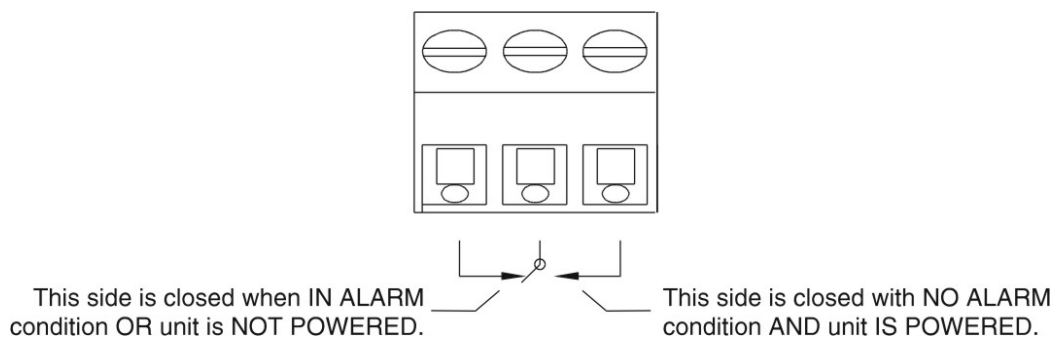

Figure 3-2: Contact ID for FAILSAFE Relay Operation
The contact connections are indicated diagrammatically on the rear panel as normally closed (NC), common (C), and normally open (NO). Figure 3-2 explains how these act in failsafe operation.